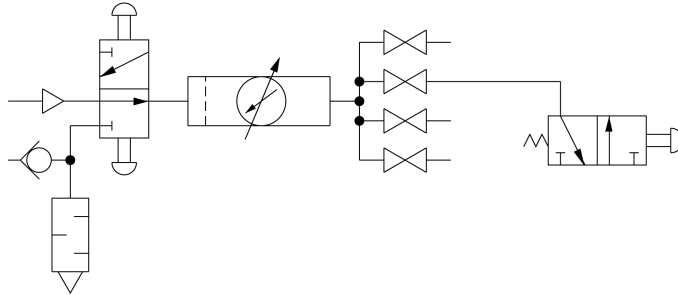

Figure 3-5. Schematic Diagram of a Circuit Using a DCV to Select a Branch Circuit.
- ☐ 14. Modify the circuit as shown in Figure 3-5. Connect the Conditioning Unit to the OUT port of the directional control valve.